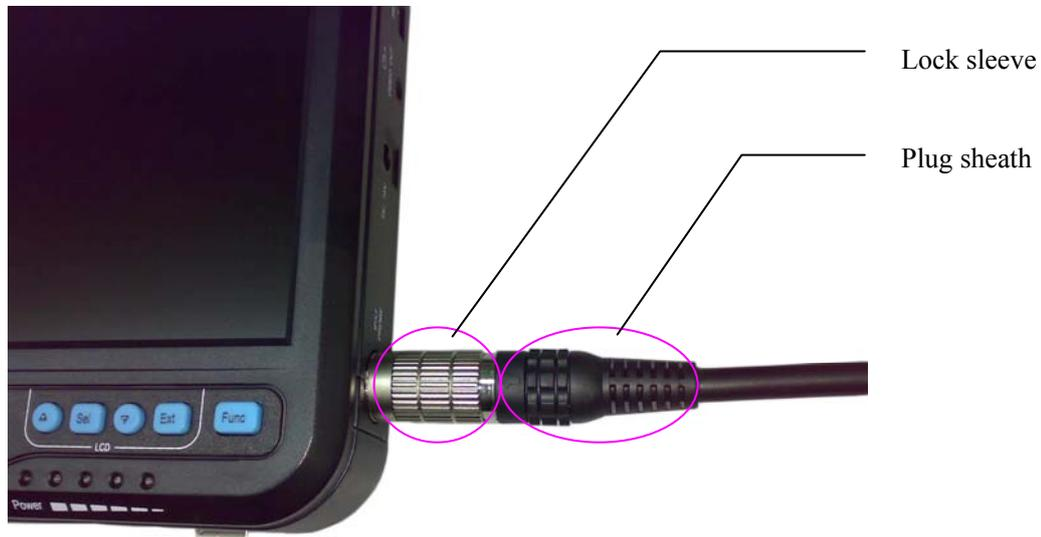

Figure 2-3. Probe connection sketch
The probe jack lies in the bottom of the right side of the equipment. Adjust the probe plug mark position and insert it, turn the plug lock sleeve counter-clockwise. There is only one plug jack which is also compatible for those optional probes (refer to figure 2-3).
**Installation and disassembly of the probe must comply with the operation instructions, must not twiddle the sheath around the plug (refer to figure 2-3).**